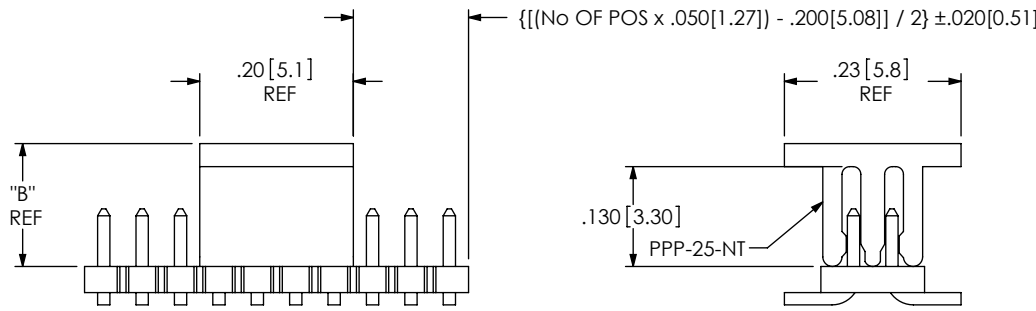
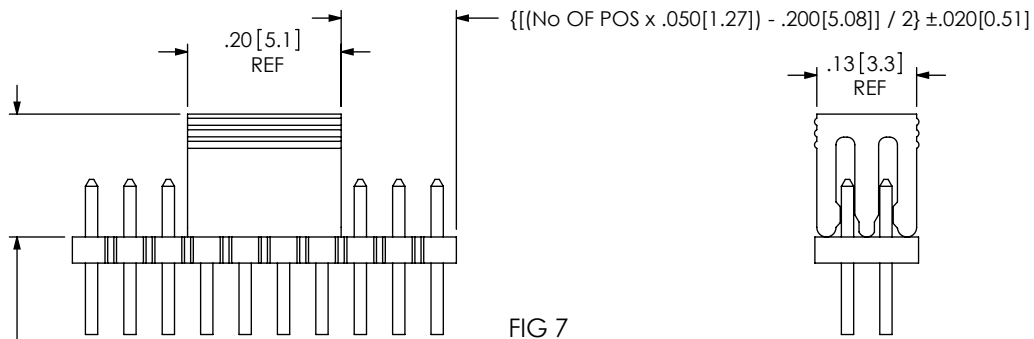

FIG 5
FIG 7
- P: PICK AND PLACE PAD (USE PPP-25) (AVAILABLE ON POSITIONS 05 THRU 50) (SEE FIG 5, SHT 2 & FIG 7, SHT 3) (USE PPP-25-NT FOR TAPE & REEL)